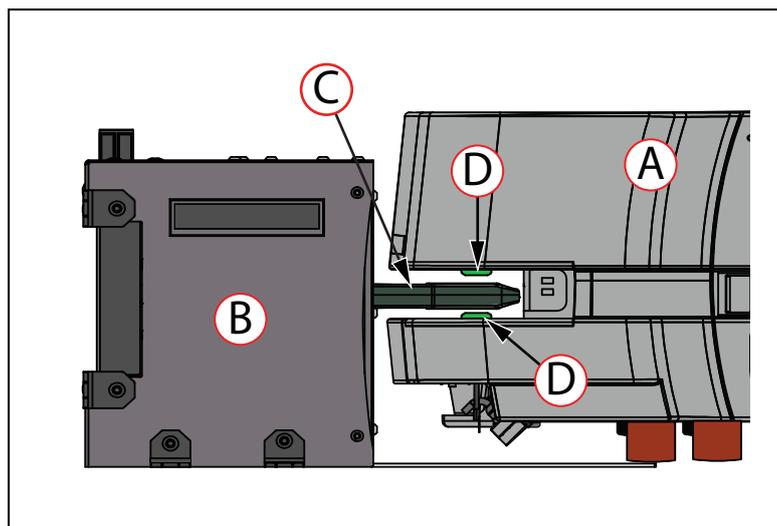

Figure 6-8. (A) HD-1500, (B) Docking Target, (C) Charging Paddle, and (D) HD-1500 Charging Contacts
- **Charging Contacts**      The charging contacts on the AMR receive the power from the docking target and transfer to the AMR's battery ((D) in Figure 6-8.